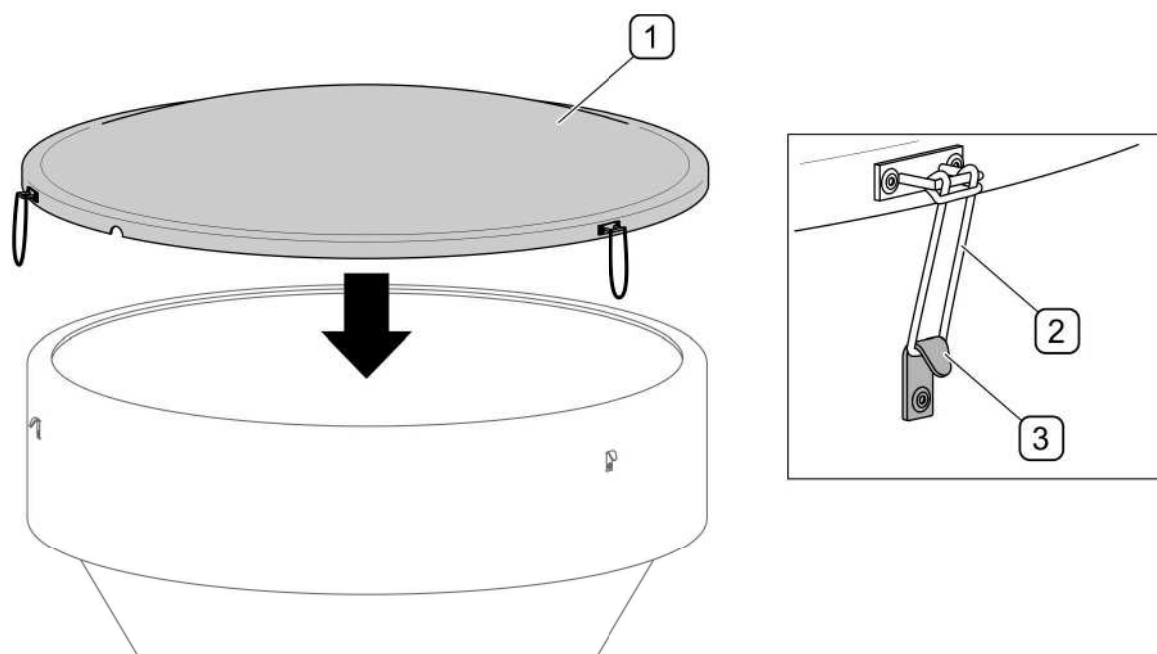

FIG. 4.10 Tank cover (option)
(1) - hydraulic quick coupling plugs; (2) - protective stoppers; (3) - conduit bracket;
Optionally, the machine can be equipped with tank cover (1) with rubber tensioners (2) used for securing to hooks (3) on the sand spreader tank. Installation method, depending on tank type, is shown on FIG. 4.10.